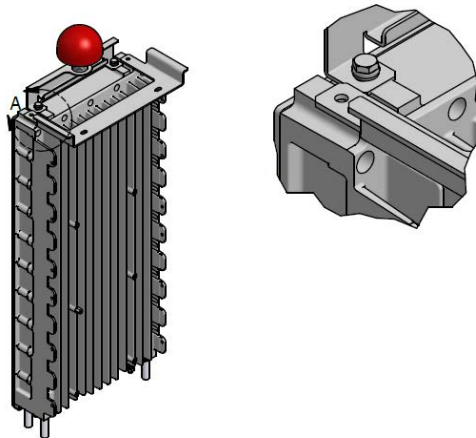

Figure 17: Installing the GPS Antenna
1. Mount the GPS antenna as shown in Figure 17.